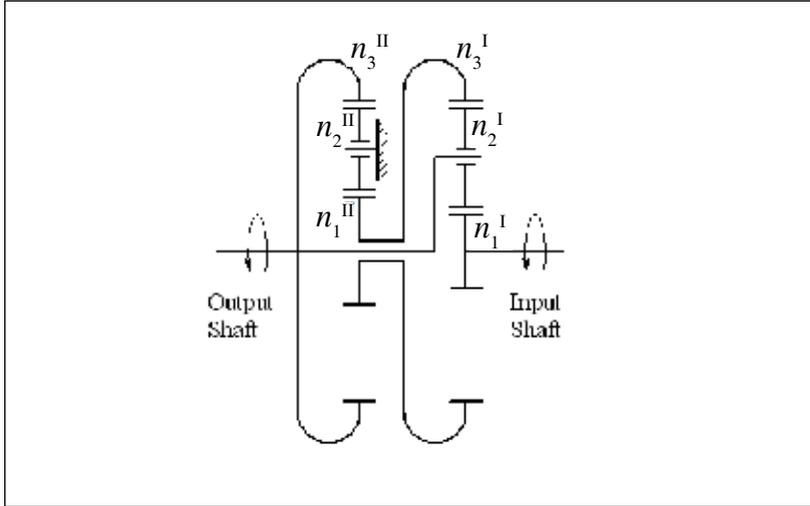

Figure 6—Two-stage epicyclic differential gear train.
### 4. Epicyclic differential arrangement (Fig. 6)
**Figure 8—Two-stage epicyclic gear train volume function charts; A = “star” arrangement (Fig. 4); B = planetary (Fig. 5); C = with first differential stage (Fig. 6).**